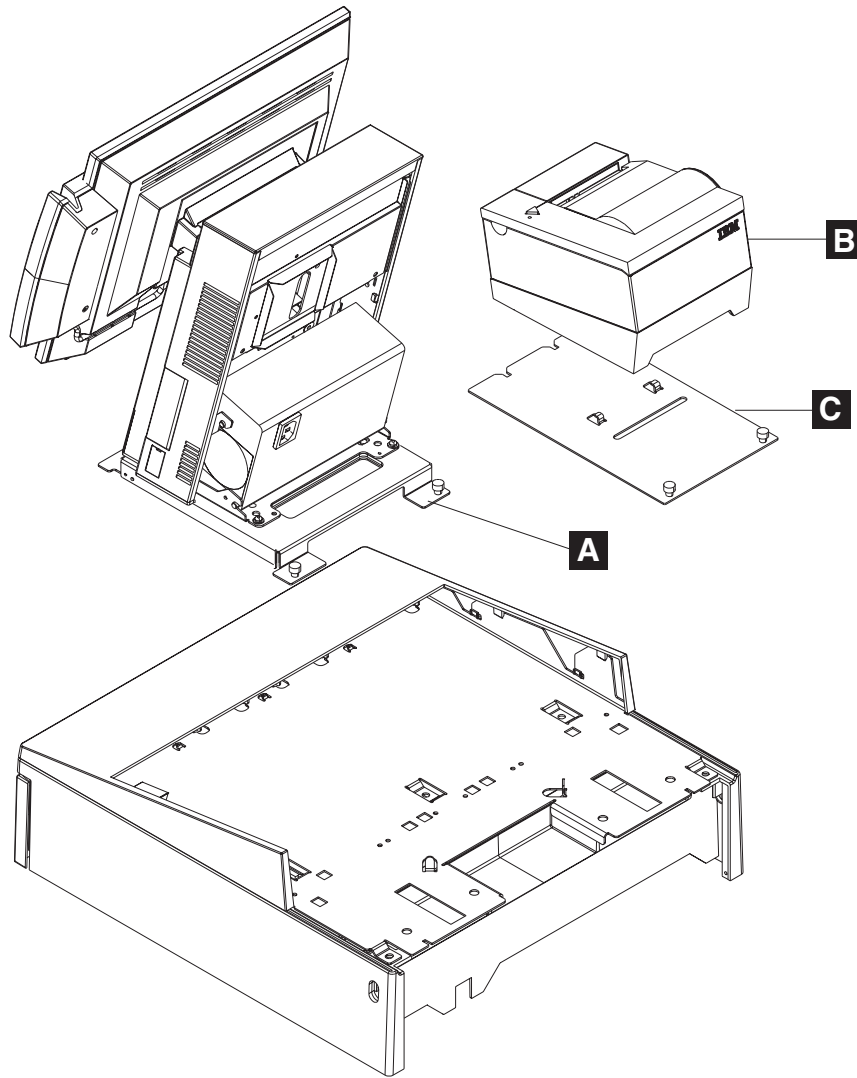

Figure 66. Detaching system from cash drawer integration tray
7. Remove the thumbscrews (2) securing the SurePOS 500 Models 5x3 and 544/564 adapter plate **A** to the integration tray, as shown in Figure 66 on page 90. Then slide the system and adapter plate to the rear as a unit to free the plate from the mounting tabs. Remove the SurePOS 500 Models 5x3 and 544/564.